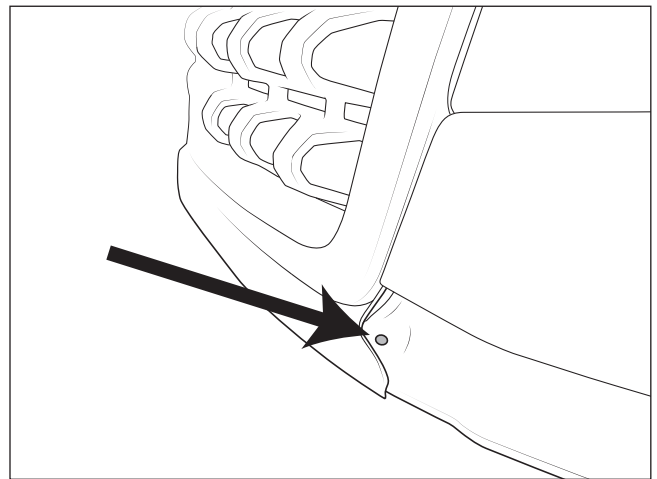

Figure 7
D. Install supplied flathead screws into the grill through the filler panel (figure 7).